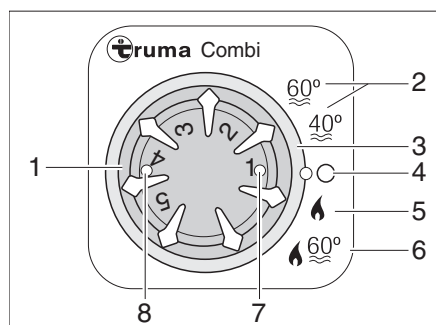

Fig. 96 Operating unit for heater/boiler
Selecting operating mode: ■ Set the operating mode using the rotary switch (Fig. 96,3).
Winter operation The heater selects the required burner setting according to the set heating level. In the "Heater and boiler" operating mode (Fig. 96,6) the water in the boiler is also heated. The heater can be operated with an empty boiler in the "Heater without boiler" operating mode (Fig. 96,5).
- Set the temperature control knob (Fig. 96,1) at the operating unit to the desired heating level.
- Set the rotary switch (Fig. 96,3) to winter operation "Heater without boiler" (Fig. 96,5) or to winter operation "Heater and boiler" (Fig. 96,6).
Green indicator lamp (Fig. 96,7) lights up.
- Set the rotary switch (Fig. 96,3) to "O" (Fig. 96,4).
The combination gas operation and 230 V electrical operation reduces the heating-up time (only possible when the heater on the operating unit (Fig. 96) is set to winter operation).